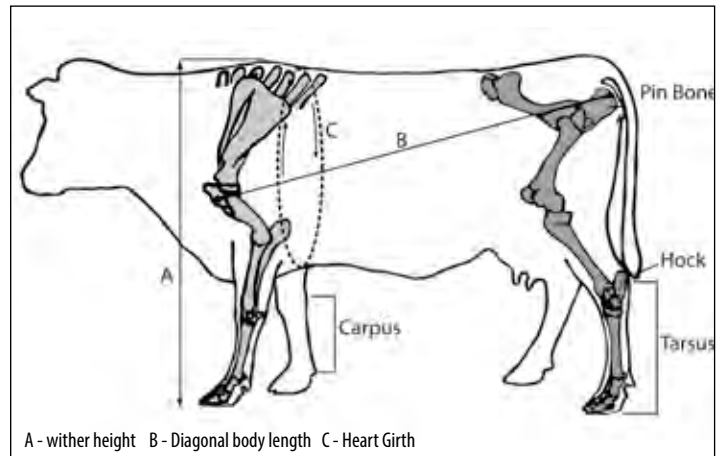

Fig. 2 Location of cow's body measurements.
P.I.P.E. should be positioned approximately equal to the animal's diagonal body length (as shown in Fig. 2 on page 25). For a guide this is approximately 1700mm for an 800kg dairy cow. General set ups should use the dimensions in each cubicle loop section to begin with, and then adjust if necessary to suit the needs of each individual herd.
Timber brisket board should be positioned approximately equal to the animal's diagonal body length (as shown in Fig. 2). For a guide this is approximately 1700mm for an 800kg dairy cow. General set ups should use the dimensions in each cubicle loop section to begin with, and then adjust if necessary to suit the needs of each individual herd.